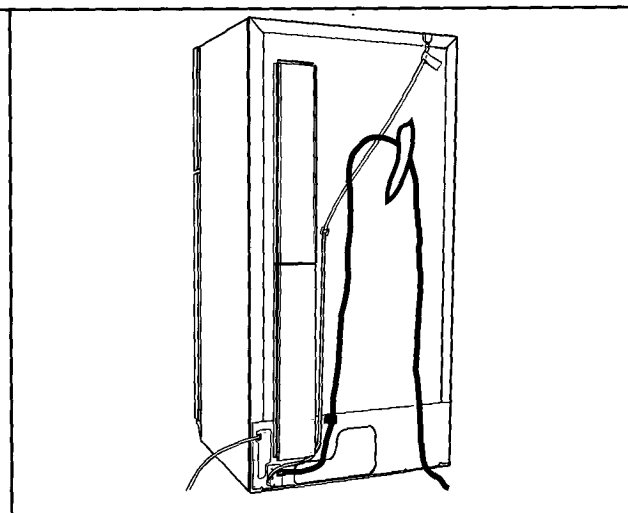

Figure 31
8. When you are confident that no leaks exist or after correcting all leaks, clamp copper tube to back of unit using "P" clamp provided on lower back cover and upper attaching screw of lower cover. Using extreme care to avoid kinks, put a service loop in copper tube as shown in Figure 31.